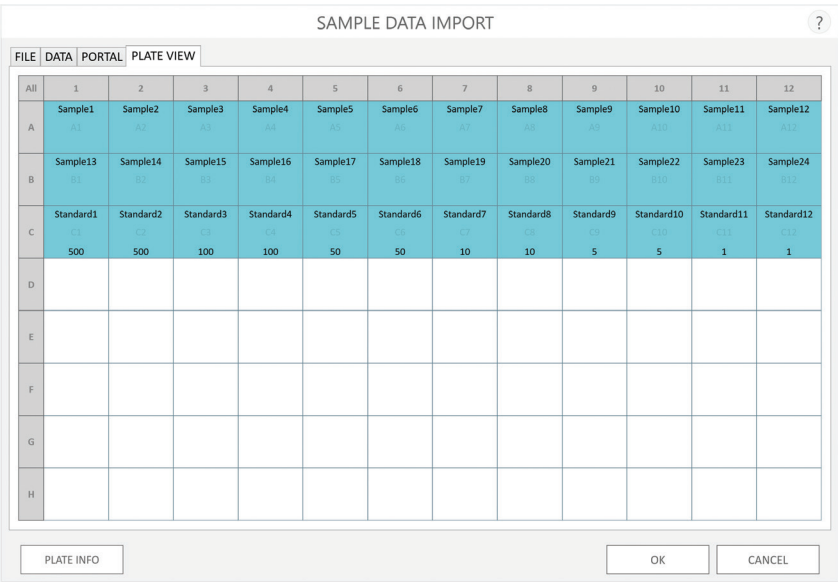

Figure 41. Plate View tab. A graphical representation of the plate map file that was imported. Sample ID and Concentration information are displayed.
8. The Plate View tab is displayed showing a representation of the sample ID and concentration data imported from the file (Figure 41). Sample IDs are shown at the top of the well and any concentration data is shown at the bottom of the well. Three buttons are located at the bottom of the screen: